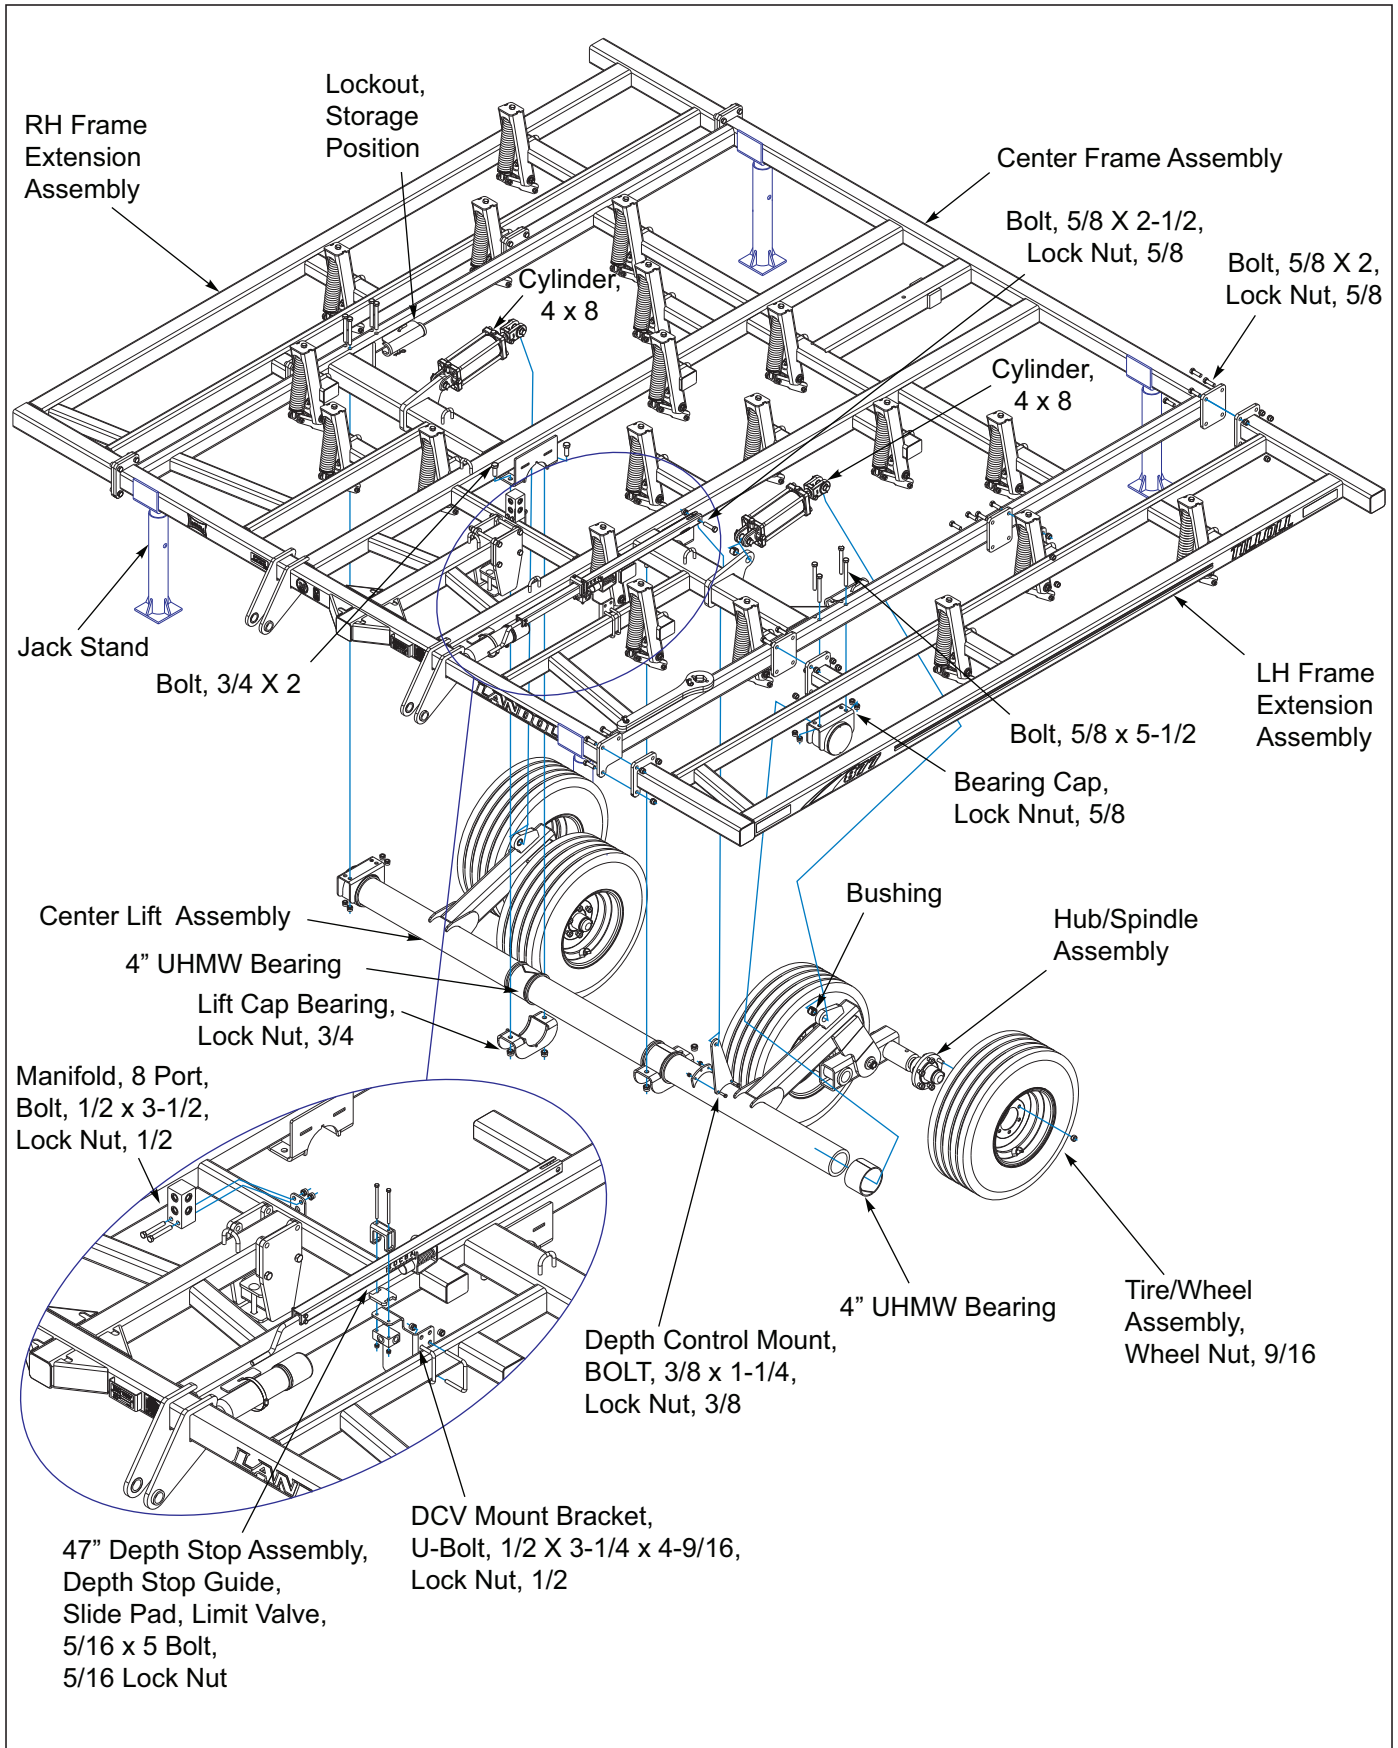

Figure 3-2: Center Frame Assembly
1. Place the center frame assembly on stands approximately 36" off the ground *See Figure 3-2*.
9. Fasten the limit valve on bottom of DCV mount bracket, secure with 5/16 x 5 bolt and lock nut *See Figures 3-2*.
11. Align the holes in the base end of 4 x 8 cylinders with holes in welded lugs on center frame. Ensure ports are facing upwards. Secure with lift cylinder pins. Attach rod end of cylinders to lug on center lift assembly with cylinder pins and roll pins provided with cylinders *See Figures 3-2*.
12. Models 877-13'-15' install the LH/RH frame extension assembly with 5/8 x 2 bolts and 5/8 lock nuts *See Figure 3-2*.
1. Install the base end of cylinders on the center frame with ports up, rod end to the center lift weldment with pin and roll pins provided with cylinders See Figure 3-2.